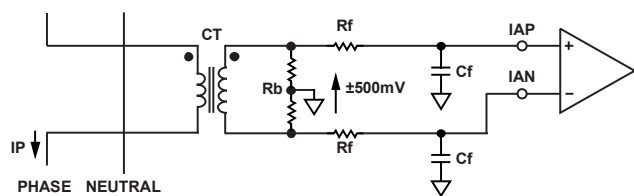

Figure 16. Typical Connection for Current Channels
Figure 16 shows a typical connection diagram for the current channel (IAN). A current transformer (CT) is the current transducer selected for this example. Notice that the common-mode voltage for the current channel is AGND and is derived by center-tapping the burden resistor to AGND. This provides the complementary analog input signals for IAP and IAN. The CT turns ratio and Burden Resistor Rb are selected to give a peak differential voltage of ±500 mV at maximum load.